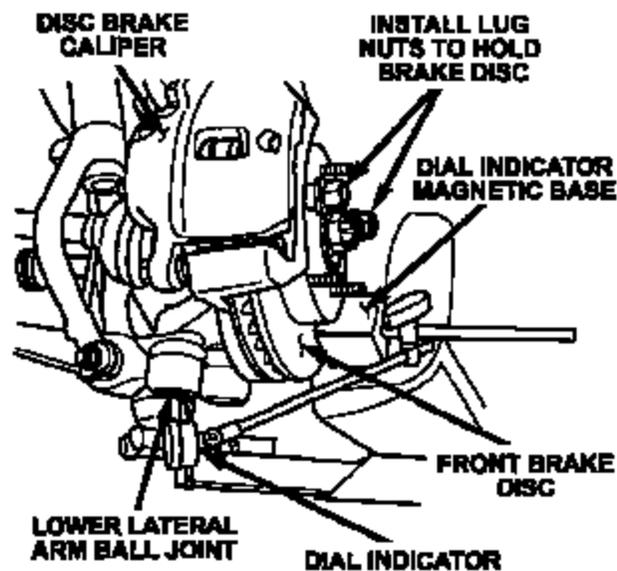

Figure 3 – Left Side Shown
9. Install lug nuts to secure the brake disc to the spindle hub (Figure 3). Tighten the lug nuts to 95 ft. lbs. (128 N·m).
10. To measure the vertical motion of the ball joint, set up a dial indicator with a magnetic base onto the left brake rotor and place the dial indicator measuring plunger on the center of the bottom cap of the lower lateral arm ball joint (Figure 3).